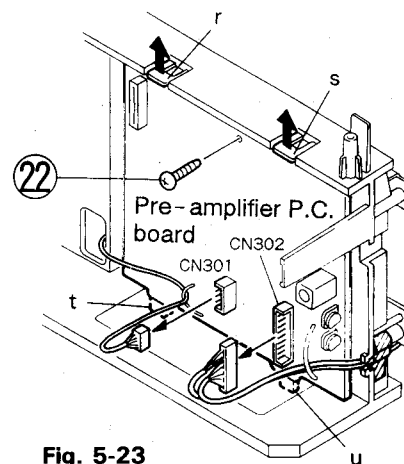

Fig. 5-23
■ How to Remove the Pre- amplifier P.C. Board (Refer to Fig. 5-23)
5. Remove the one screw (22) retaining the pre- amplifier P.C. board.